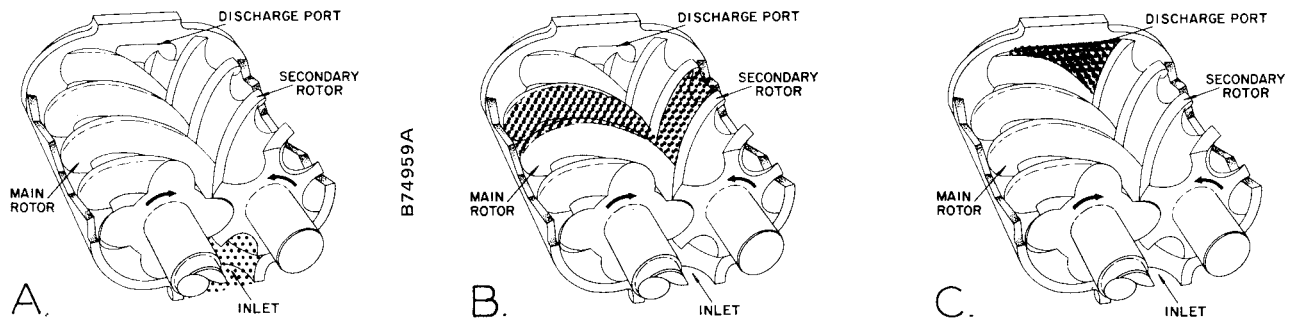

FIGURE 1-1. — COMPRESSION CYCLE
**COMPRESSION PRINCIPLE** (Figure 1-1) — Compression is accomplished by the main and secondary rotors synchronously meshing in a one-piece cylinder. The main rotor has four helical lobes 90° apart. The secondary rotor has six matching helical grooves 60° apart to allow meshing with main rotor lobes.
The air inlet port is located on top of the compressor near the drive shaft end. The discharge port is near the bottom at the opposite end of the compressor cylinder. Figure 1-1 is an inverted view to show inlet and discharge ports. The compression cycle begins as rotors unmesh at the inlet port and air is drawn into the cavity between the main rotor lobes and secondary rotor grooves (A). When the rotors pass the inlet port cutoff, air is trapped in the interlobe cavity and flows axially with the meshing rotors (B). As meshing continues, more of the main rotor lobe enters the secondary